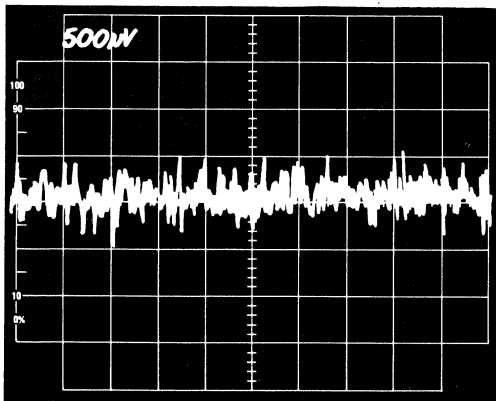

Figure 9. Voltage Noise, 0.1Hz to 10Hz, G = 1000
**Gain Nonlinearity and Noise:** Gain Nonlinearity is specified as a percent of full-scale output, and for the 1B32 it is  $\pm 0.005\%$  max over the full span. The chopper design also offers exceptional low-noise performance, with typical input noise of 1μV p-p in the 0.1Hz to 10Hz bandwidth (Figure 9).